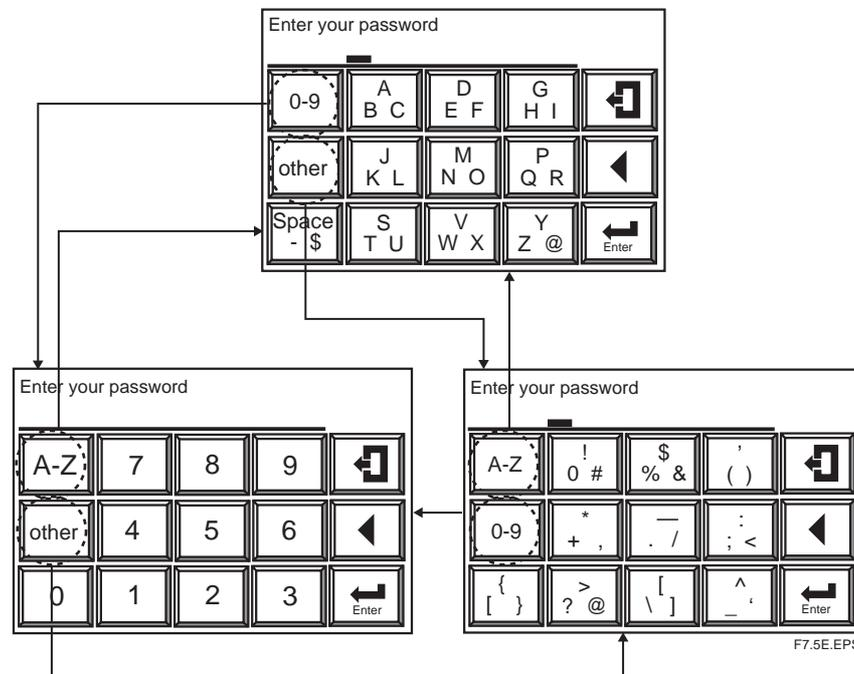

Figure 7.5 Text Entry Display
To enter a password (in combination with text data, numeric values and codes), the alphabetic character entry panel display first appears. If you press any numeral key (0 to 9), the current display then changes to the numeric-value entry panel display, enabling you to enter numeric values. If you press the “other” key, the current display then changes to the code-entry display, enabling you to enter codes. These displays alternate between the three. Figure 7.5 shows the relationship between these three displays. Three alphabetic characters and three codes are assigned for each individual switch. If the alphabetic character key is pressed and held, three characters appear in turn. Move the cursor to the desired character and release the key to enter it. If an incorrect character is entered, move the cursor to re-enter the characters. The following shows an example of entering “abc%123.”